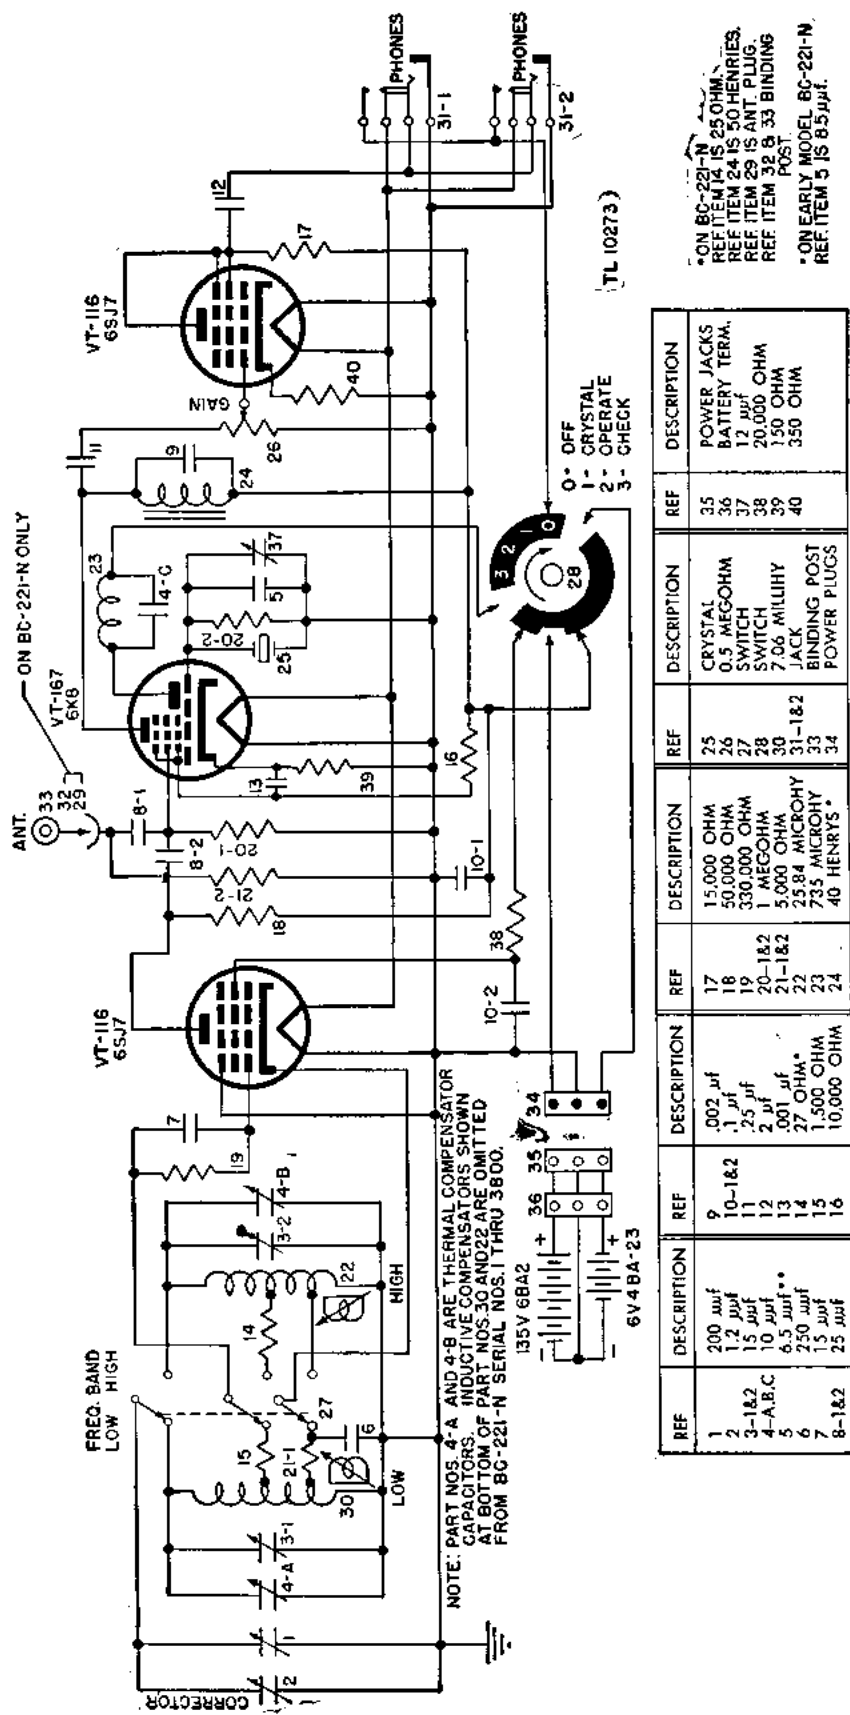

Figure 71. Frequency Meters BC-221-N and BC-221-AA, schematic diagram.
quency Meter BC-221-N, serial Nos. 1 through 3800, may not function satisfactorily in meters having serial Nos. 3801 and higher. Part Nos. 5 and 37 differ slightly in electrical characteristics. The schematic diagram (fig. 71) indicates that it is not necessary to show separate functional diagrams on the two types of meters since the main difference consists of the temperature compensating devices.
e. **OSCILLATOR FUNCTION.** (1) The variable frequency oscillator circuit is in operation at the CHECK and OPERATE positions of operation switch 28. (See fig. 71.)
(2) At the CHECK position, the output of oscillator Tube VT-116 (6SJ7) is applied to one of the grids of detector-converter Tube VT-167 (6K8), where it is mixed with the output frequency of the crystal circuit. The result is a frequency equal to the difference of the two and is used to adjust the frequency of the oscillator by means of the CORRECTOR control.
(3) At the OPERATE position, the variable frequency oscillator is in operation, while the crystal oscillator is not. If the antenna is in position, the frequency meter may be used to receive or send any frequency in its range; that is, it may be used as a radio receiver or transmitter.
206. Power Supply Circuit (fig. 71)